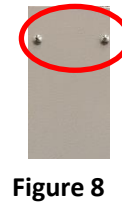

Figure 8
4. Screw two #10 screws and their two lock washers (**Figure 7**) into the top two holes of the pole (**Figure 8**). Do not tighten. Leave space to hang the 3703 back panel between the washers and the screws.